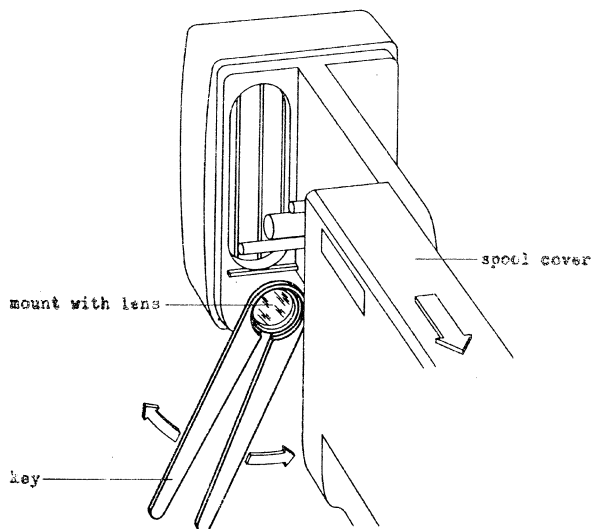

Fig. 25.1
- 9.3 After the mirror adjustment in the front plate the crosslines have become unsharp, hence, the mount with lens must be adjusted (see Fig. 25.1).
- 9.5 Pull the spool cover off the front plate. Dissolve the sealing lacquer with thinner 13 652 where the mount with lens (see Fig. 25.1) is screwed into the plate.